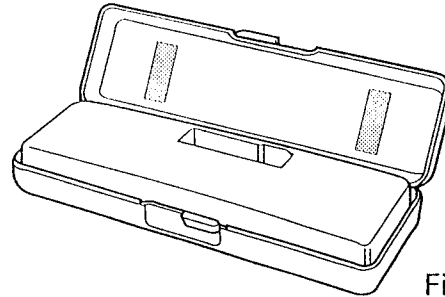

Fig. 12
3. Enclose for safekeeping the front panel that is removed in the supplied protective case. (Fig. 12)